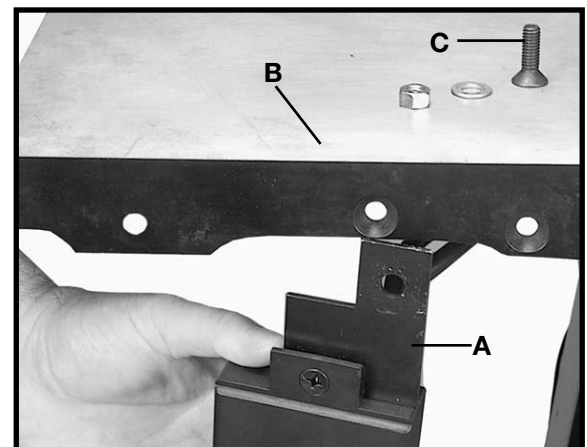

Fig. 41
1. Assemble switch (A) Fig. 41, behind the lip of extension wing (B) insert 5/16-18 x 1" flat head screw (C), then assemble flat washer, and locknut.